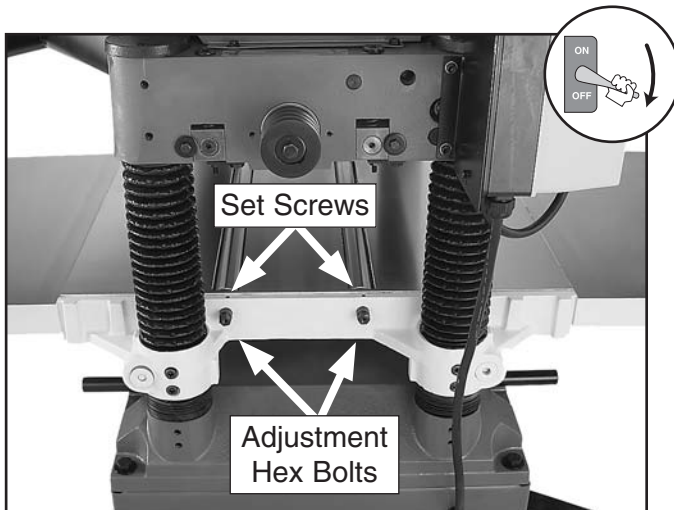

Figure 19. Bed roller height controls.
3. Loosen the set screws above each of the four roller adjustment hex bolts (see **Figure 19**).